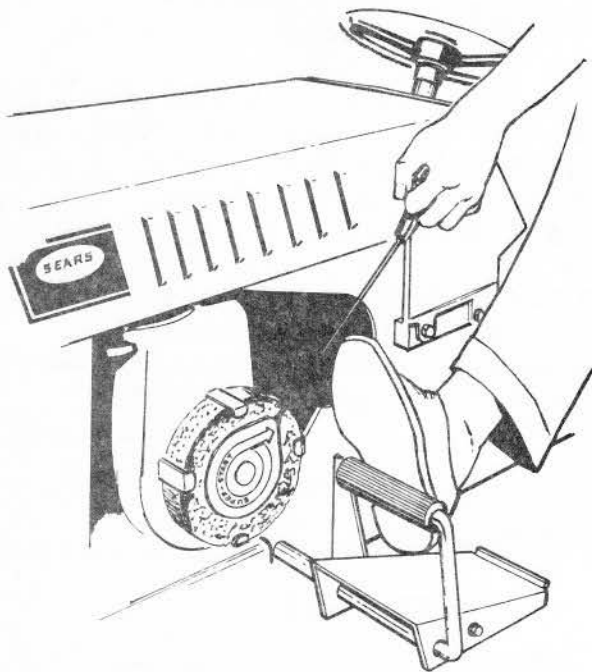

FIG. 9
6. Grasp recoil starter handle and pull sharply. Refer to Fig. 9. Do NOT allow starter rope to snap back. Rewind slowly keeping hold of the starter handle at all times.